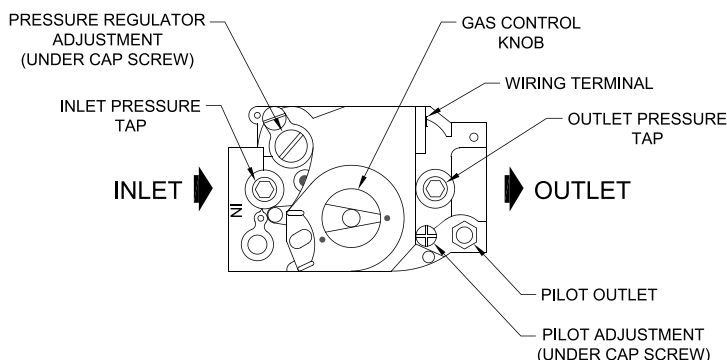

Figure 11-1: Top View of Gas Valve
- A. Connect a manometer to the inlet pressure tap on the gas valve (see Figure 11-1).
- E. Connect a manometer to the manifold (outlet) pressure tap on the gas valve (Figure 11-1).
G. If a manifold pressure adjustment is needed, make the adjustment by turning the regulator screw (see Figure 11-1) clockwise to raise the pressure and counter-clockwise to reduce the pressure. If a manifold pressure adjustment is made, recheck the inlet pressure after making the adjustment to be certain that it is still within acceptable limits. Replace the cover screw on the regulator.